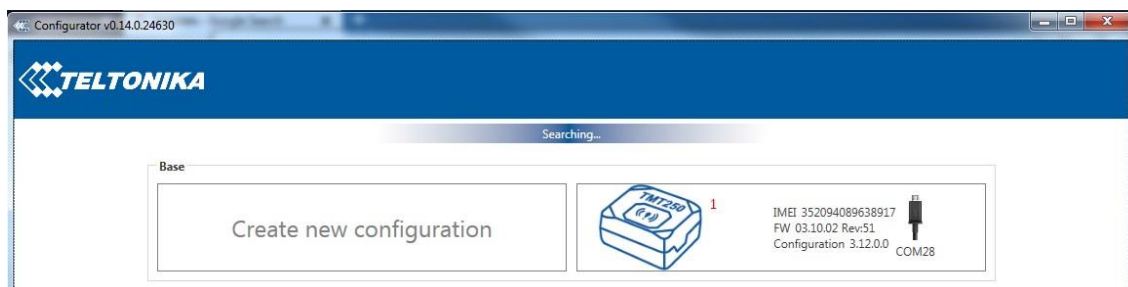

Figure 24 TMT250 configurator connected devices window
- After successful connection to the device wait a few moments while the device loads the current configuration, then navigate to Bluetooth section as shown on **Figure 24**.
- When device configuration is loaded press **Bluetooth** settings (**Figure 24** position 1).
- Turn on BT Radio by pressing Enable (visible) (**Figure 24** position 2). Local name (**Figure 24** position 3) will be "TMT250_last 7 imei digits" by default, which can be changed.
- Set *Security Mode* (**Figure 24** position 4) to *PIN only* or *None*. *PIN + MAC list* or *MAC list only* security modes could also be selected, but in that case external device MAC address is required to be entered to *Authorized Devices MAC List* (**Figure 24** 7 position).
- Set connection mode to *Hands Free* (**Figure 24** position 5).
- Set *External Name* (**Figure 24** position 6) as your hands-free device name for proper identification. In the given example hands-free headset name is "DMH10" but at least 2 characters are required to recognize it and connect to it. For better and quicker adapter identification on the network you could enter a full device name. You could check your hands-free adapter Bluetooth name by scanning nearby Bluetooth devices using a mobile phone or a computer with Bluetooth adapter.
Bluetooth starts automatically when TMT250 device is on. Take your mobile phone, go to **Settings->Bluetooth** and turn it on. Scan for nearby devices, find the device in the list, distinguish the device by last IMEI digits on device module. Press pair, wait until device asks to enter pairing password, type: "5555" (as in the example on the **Figure 24**). Paired device will show up in the paired device list. Download a terminal for Bluetooth e.g. *BlueTerm* from *Play Store/App store*. Run app, click **Find->Connect** to your paired device. Now we need to send a command to TMT250 from Bluetooth terminal, type: ".log:1". Device will respond with "Debug enabled" and TMT250 log will show up. Do not forget to save the log file to mobile phone.